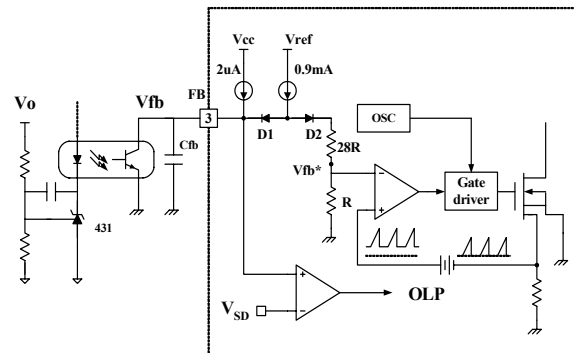

Figure 5. Pulse width modulation (PWM) circuit
**2. Feedback Control :** The FSDL312 employs current mode control, shown in figure 5. An opto-coupler (such as the H11A817A) and shunt regulator (such as the KA431) are typically used to implement the feedback network. Comparing the feedback voltage with the voltage across the Rsense resistor plus an offset voltage makes it possible to control the switching duty cycle. When the reference pin voltage of the KA431 exceeds the internal reference voltage of 2.5V, the H11A817A LED current increases, thus pulling down the feedback voltage and reducing the duty cycle. This event typically happens when the input voltage is increased or the output load is decreased.